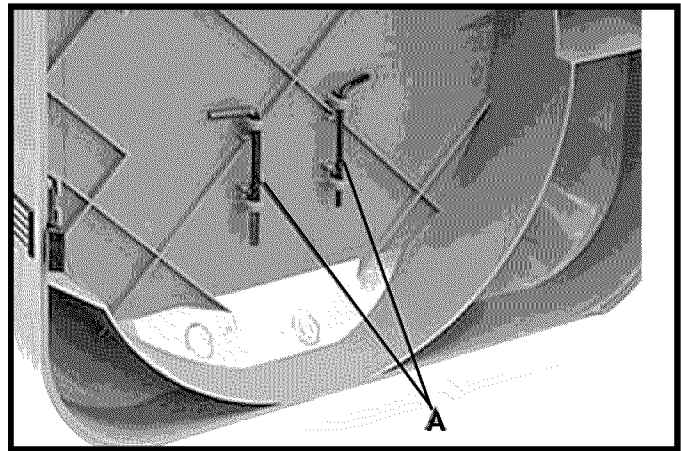

Fig. 37
The 3mm and 4mm adjustment wrenches (A) supplied with your band saw can be conveniently stored inside the wheel cover as shown in Fig. 37.